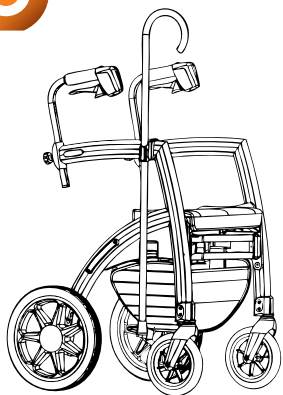

figure 4
4. Check that your cane or crutch is firmly attached, does not block the wheels and does not slide downwards (Fig. 4).